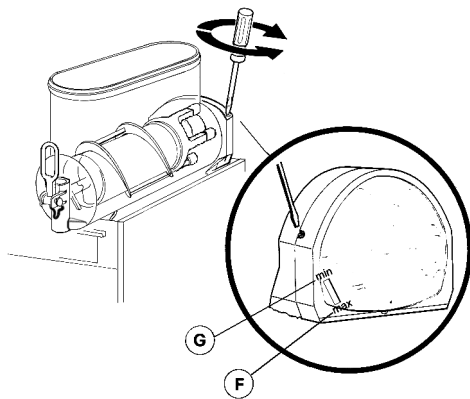

figure 4
**1 Granita viscosity adjustment:** proper Granita viscosity is factory preset. To change the viscosity, if needed, use a standard screwdriver to turn the adjustment screw located in the rear wall of each container as follows (see figure 4):